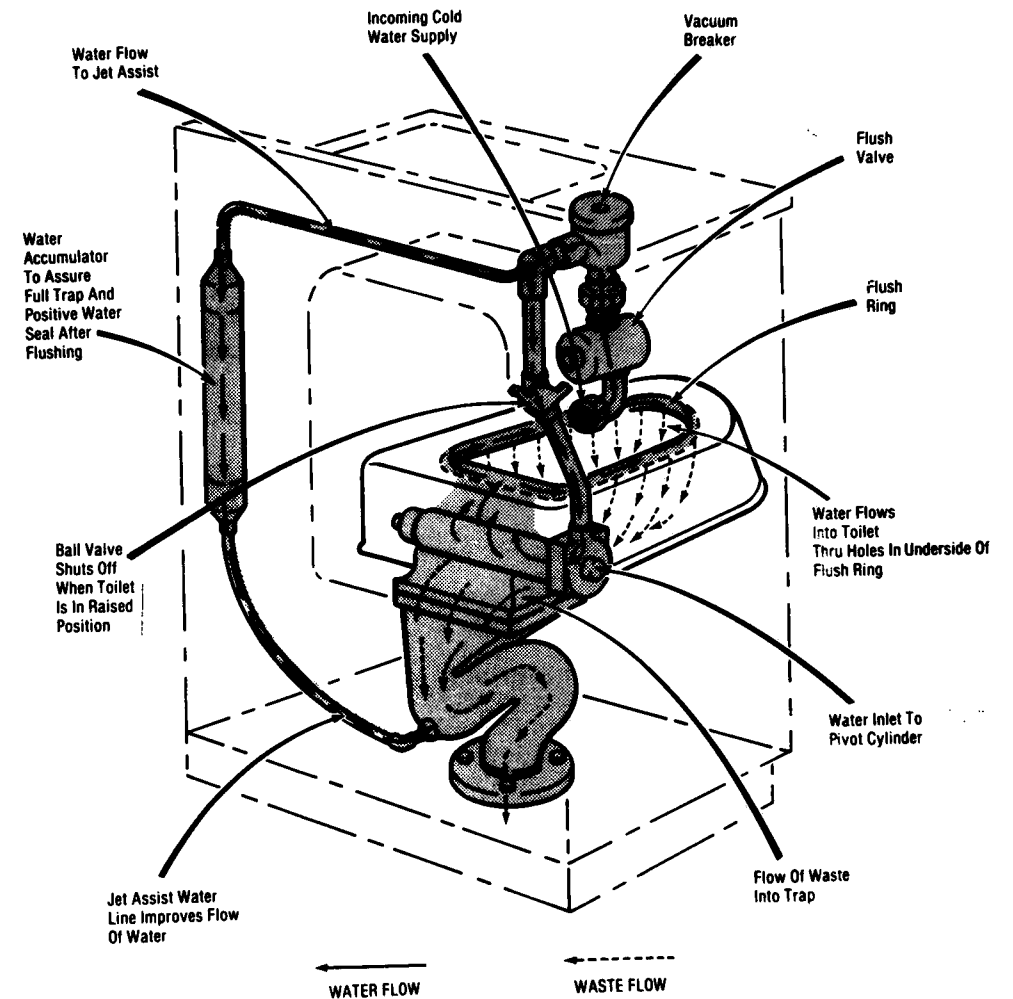

Figure 3-1. MODULAV WATER FLOW DIAGRAM.
3. Use the Flow Diagram (Fig. 3-1) as an aid in understanding operation of the Modulav and in locating problems.